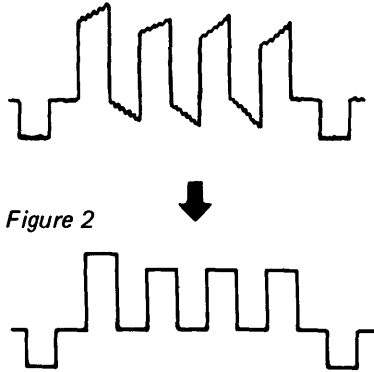

Figure 2
2. Turn T204 (ID) core so that IC201 pin 25 DC level is maximum.
3. While observing the blue output TP10 (B.OUT) waveform, adjust T201 (BELL FILTER) so that the output waveform peak portions are flat. (Figure 2)
2. Adjust T202 (R-Y DISCRI) so that red output TP8 (R.OUT) waveform valleys are the same level. (Figure 2)